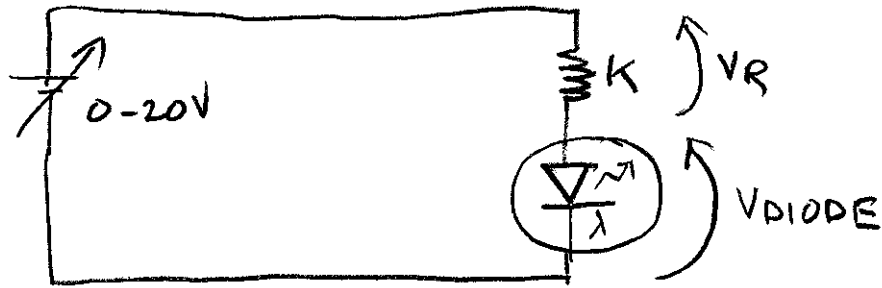

Figure 7: Light Emitting Diode circuit
- 6.1 Build the circuit in Figure 7.